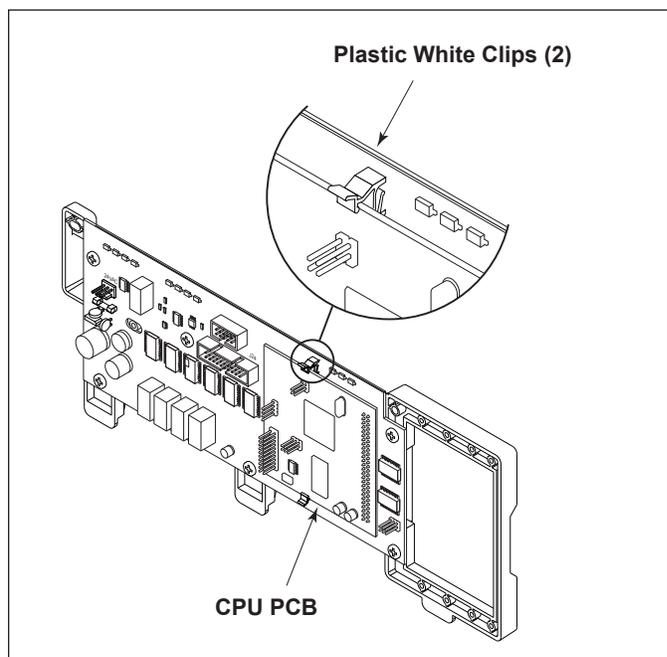

Figure 3. CPU PCB Bezel Assembly
12. Pull apart the white clips holding the CPU, and remove the CPU from the power center PCB. See Figure 3.
13. Carefully put the new power center PCB in place, and secure with all seven (7) screws to the bezel.
8. Install the new CPU to the power center PCB. Push gently into place and secure with the two white clips. See Figure 3.